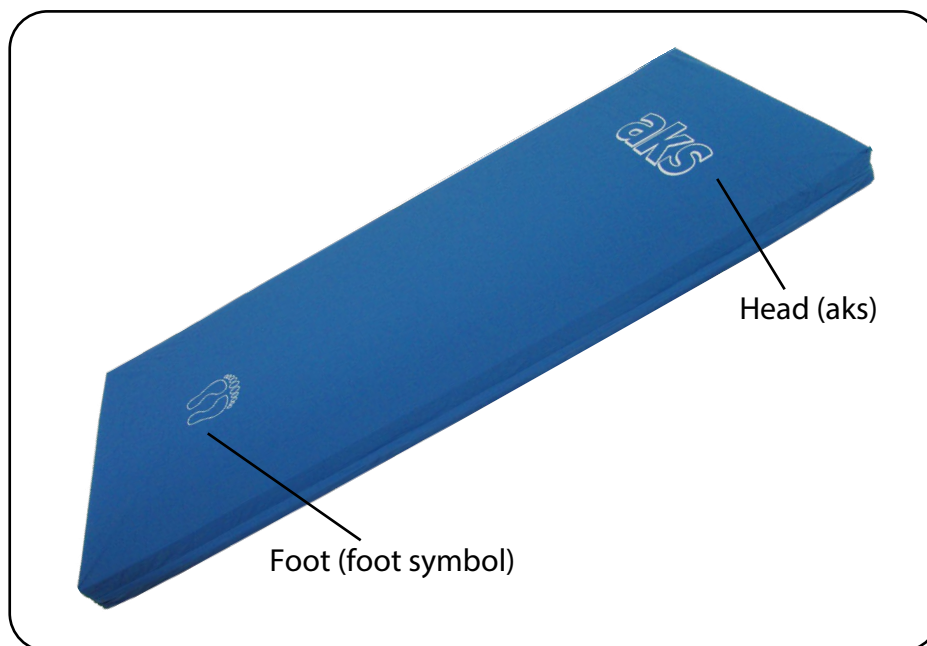

Fig. 6.01 – Mattress with mattress cover
7. Make sure that the "aks" imprint and the foot symbol are upright. The "aks" imprint should be positioned at the head of the bed and the foot symbol should be positioned at the foot (Fig. 6.01).